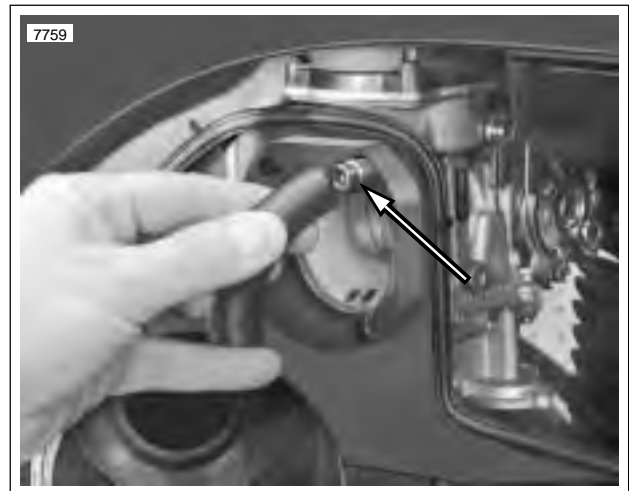

Figure 1-38. Fix Hose End Onto Allen Head Screw
7. See Figure 1-38. Squeeze wings on spring clamp with pliers and push free end of clean air inlet hose over head of gold screw (and spacer) to fix position.